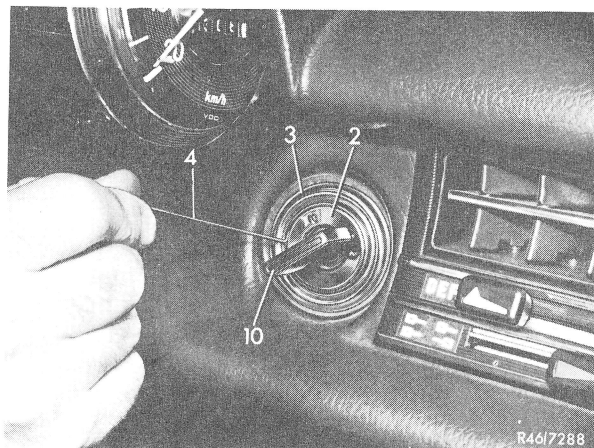

Fig. 3
- 2 Lift cover sleeve (2) up to bottom edge of key. If required, pull cover sleeve out of steering lock up to bottom edge of key by means of a steel wire (4) 1 mm thick. Introduce pulling hook between rosette (3) and cover sleeve into groove (10) (Fig. 3 and 4).